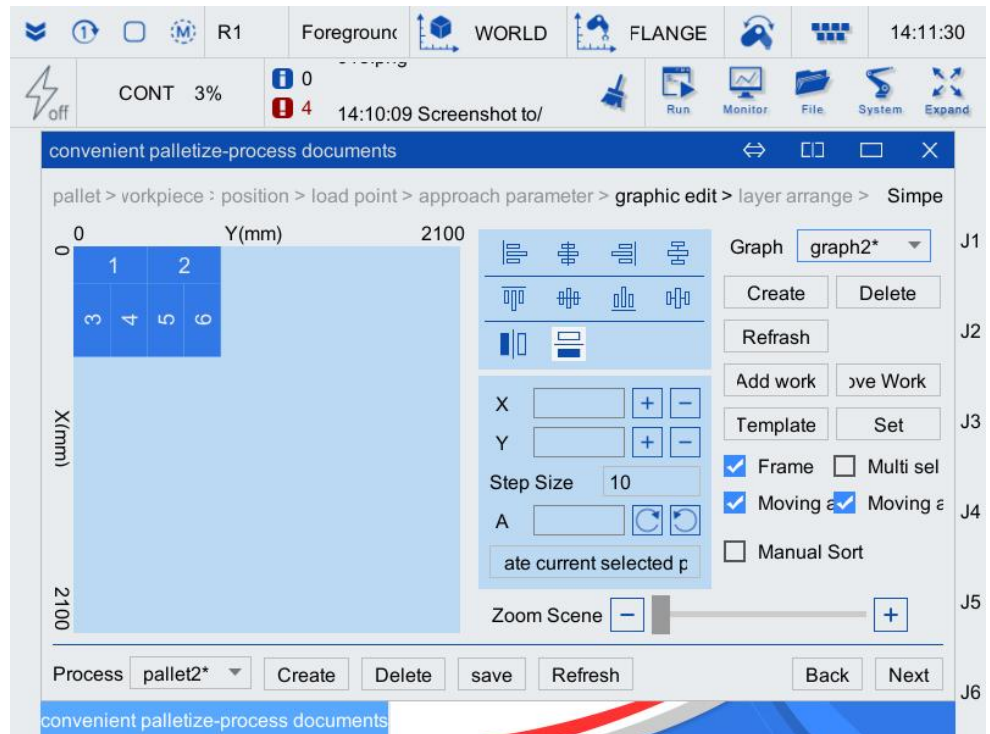

Figure 3-44 Editing interface of graphic of the second layer of positive and negative staggered stacking
Step7. Drag the workpieces with the stylus to make the arrangement of workpieces as shown in Figure 3-44.